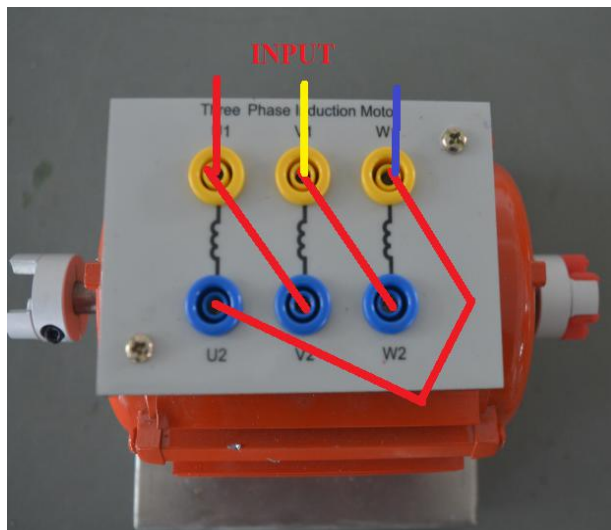

Fig.1.4.3(c)
5) Three-phase AC motor wiring is shown in Figure 1.4.3 (c)